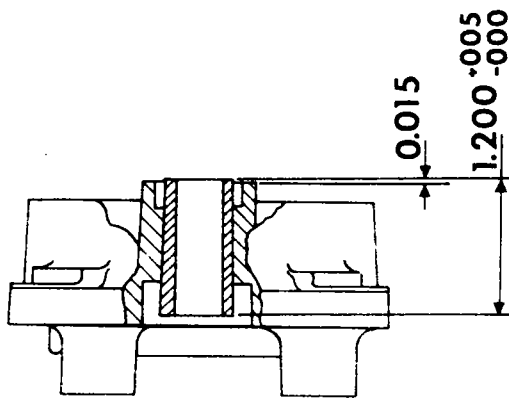

Figure 4.
4. Use a suitable cutting tool and turn so that overall length of bushing is $1.200 \pm .005 - .000$ inch as shown in figure 4. (A Carbaloy tipped tool is recommended.)
of reworked bushing. See figure 4.